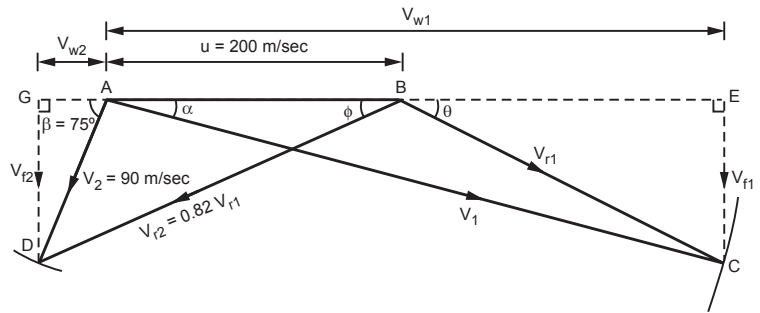

Fig. 3.25
- Consider a suitable scale as **1 cm = 25 m/sec** and draw velocity triangles as shown in Fig. 3.25.
- The function of fixed blades is to change the direction of motion of the steam received from a ring of moving blades and to redirect the steam on to the next row of moving blades. Refer Fig. 3.25.